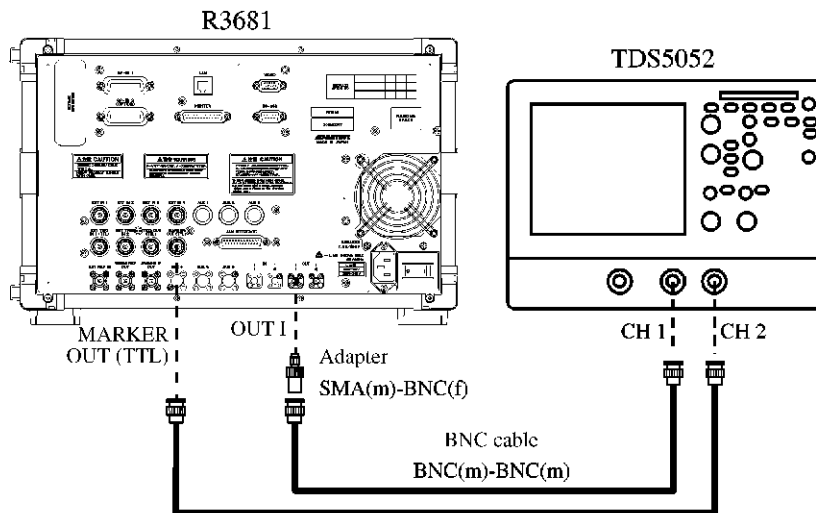

Figure 8-21 Marker 2 Output Verification Connection Diagram
2. Connect the instruments as shown in Figure 8-21.